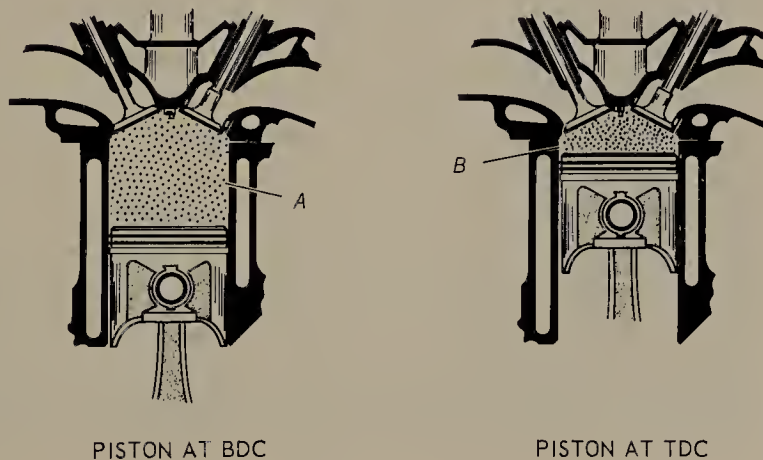

FIGURE 5.8 Compression ratio is the volume in a cylinder with the piston at BDC divided by its volume with the piston at TDC, or *A* divided by *B*.
5.9 Compression Ratio. The compression ratio of an engine is a measurement of how much the air-fuel charges are compressed in the engine cylinders. It is calculated by dividing the air volume in one cylinder with the piston at BDC by the air volume with the piston at TDC (Fig. 5.8).
For example, the engine of one popular automobile has a cylinder volume of 42.35 cu in. at BDC (*A* in Fig. 5.8). It has a clearance volume of 4.45 cu in. (*B* in Fig. 5.8). The compression ratio, therefore, is 42.35 divided by 4.45, or 9.5/1 (that is, 9.5:1). In other words, during the compression stroke, the air-fuel mixture is compressed from a volume of 42.35 cu in. to 4.45 cu in., or to 1/9.5 of its original volume.
Volumetric efficiency is the ratio between the amount of air-fuel mixture that actually enters the cylinder and the amount that could enter under ideal conditions. For example, a certain cylinder has an air volume (*A* in Fig. 5.8) of 47 cu in. If the cylinder were allowed to completely “fill up,” it would take in 0.034 oz of air. However, suppose that the engine were running at a fair speed, so that only 0.027 oz of air could enter during each intake stroke. This means that volumetric efficiency would be only about 80 percent (0.027 is 80 percent of 0.034). Actually, 80 percent is a good volumetric efficiency for an engine running at fairly high speed. Volumetric efficiency of some engines may drop to as low as 50 percent at high speeds. This is another way